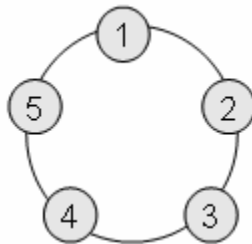

Figure 17 – Link-Seal Tightening Sequence
2. Use a 3/8” drive inch-pound torque wrench (with a 6” long 5/32” ball-point hex-bit socket) to tighten in even increments all LINK-SEAL SCREWS in the sequence shown in Figure 17. Starting point is not critical. Final torque should be 20 in-lb. DO NOT tighten more than four turns at a time.